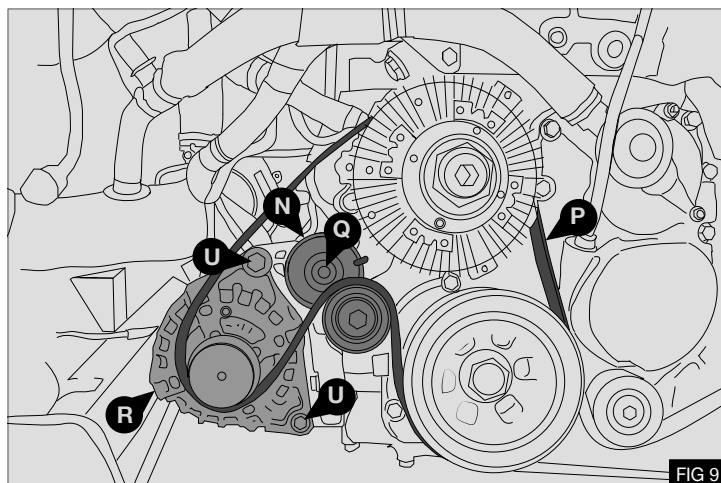

FIG 9
17. Remove and discard the original drive belt (P) - Fig 9
18. Remove and retain the auto tensioner (N) and its fixing screw (Q) - Fig 9
19. Remove and retain the screws (U) securing the alternator (R) - Fig 9